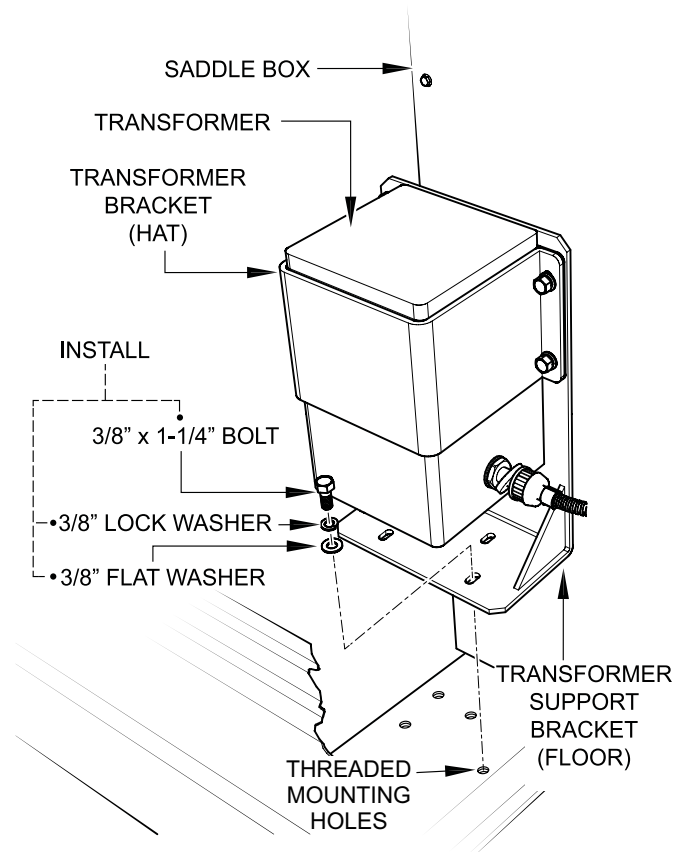

Figure 7. Mounting Transformer To Cabinet Floor
4. Align transformer support bracket with the threaded mounting holes on cabinet floor as shown in Figure 7
5. Secure transformer bracket (floor) to cabinet floor using a 3/8" x 1-1/4" bolt (4), 3/8" lock washer (4), and 3/8" flat washer.